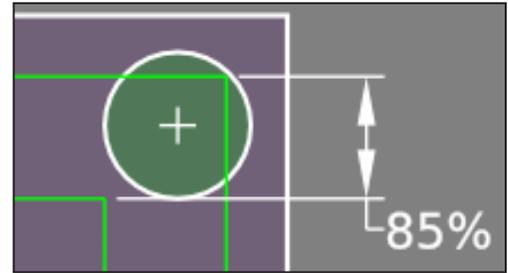

Figure 6.21
**Stepover** – This is the space between spiral tool paths. To prevent uncut areas in the spiral corners, the stepover value should be limited to 80 percent of the tool diameter (see **Figure 6.21**). A stepover of 0 may be entered which invokes a center only cut. This is more formally called by X or Y values that create a workpiece width less than 70 percent of the tool diameter.